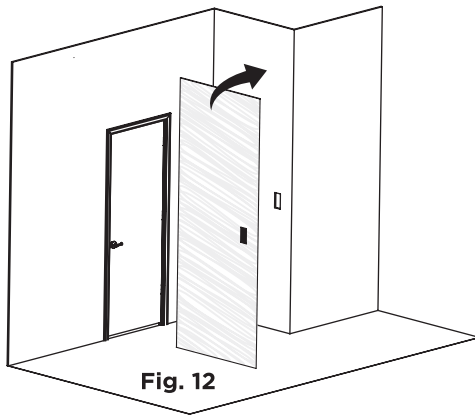

Fig. 12
- 6.1 Position the panel against the wall with the adhesive side toward the wall. Make sure the edge is aligned with your reference lines. **(Fig. 12)**